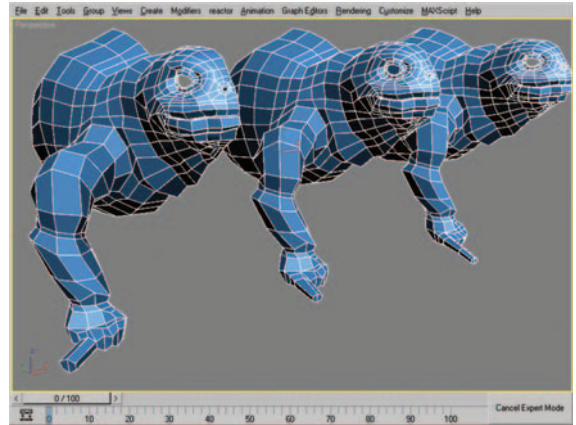

Figure 9.62 Polygons in original position (left), moved to new location (center), and after using Extrude (right).
24. Use the Extrude settings dialog box again to create another segment to the finger. Scale the polygons down (smaller) to create a taper effect. Figure 9.62 shows the polygons in their original position (left), after moving (center), and after using Extrude to create another segment of the finger (right).